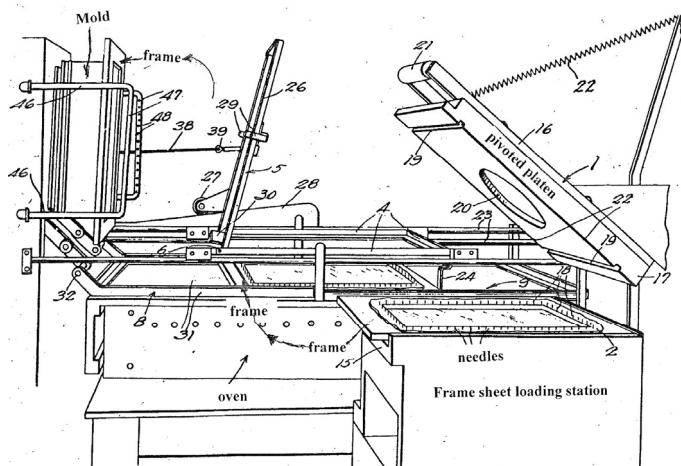

Figure 9.
Figure 9. G. W. Borkland of Marion, Indiana filed a patent on 7-8-1947 for a vacuum forming machine. The equipment utilizes individual loose single picture frames (3) which have needles (18) protruding upwards to impale the plastic's sheet. An operator places the plastic's sheet